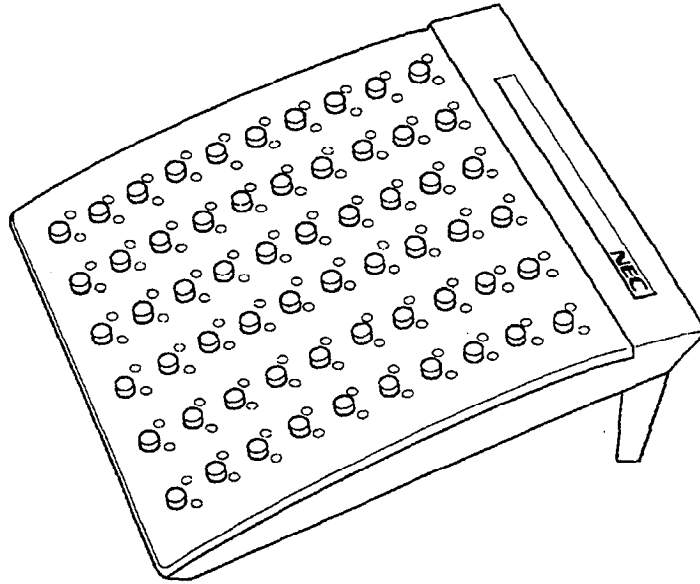

Figure 4-38 DCU-60-( ) (BK)/(WH) Console
The Attendant Console has 60 programmable line keys (each with a two-color LED). The first 48 line keys can be programmed as Direct Station Selection keys, or as outside line keys; the remaining 12 line keys can be programmed as features such as Paging, Night Transfer, or Message Waiting. An external power supply (AC Adapter) is required and is included with the console. Refer to Figure 4-38 - DCU-60-( ) (BK)/(WH) Console.